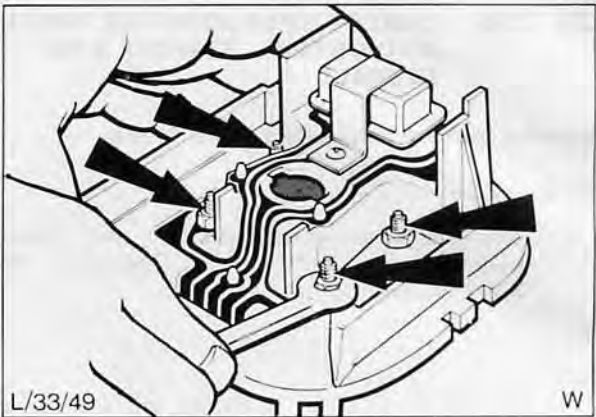

Fig. 66. Location of fuel and temperature gauge securing nuts
2. Disconnect four screws securing instrument housing to cluster body, Fig. 66.